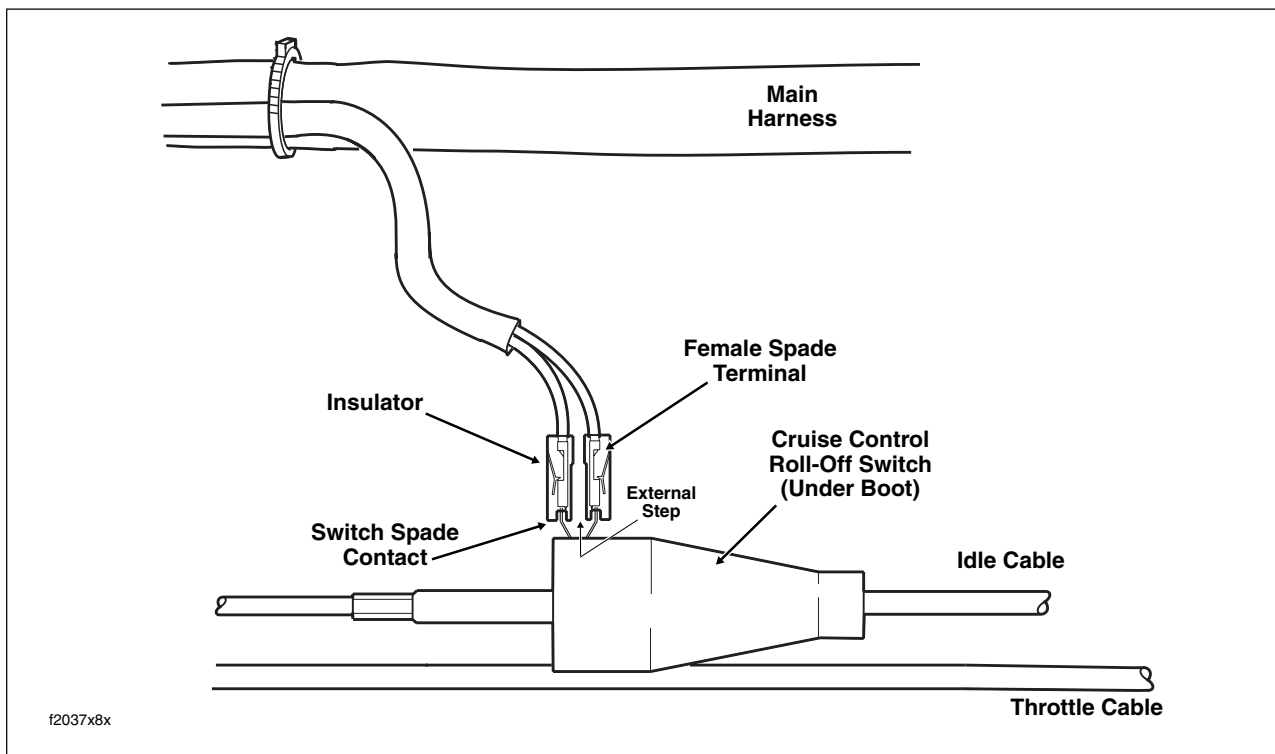

Figure 8-127. Throttle/Idle Cable Configuration (Right Side View)
4. Locate the cruise control roll-off switch plumbed into the idle cable on the right side of the vehicle. See Figure 8-127. Push rubber boot on switch forward to access spade type wire terminals.
7. Slide the insulators onto the switch spade contacts (polarity is not a factor). For maximum insertion, be sure that the external step on the insulators face each other. See Figure 8-127.